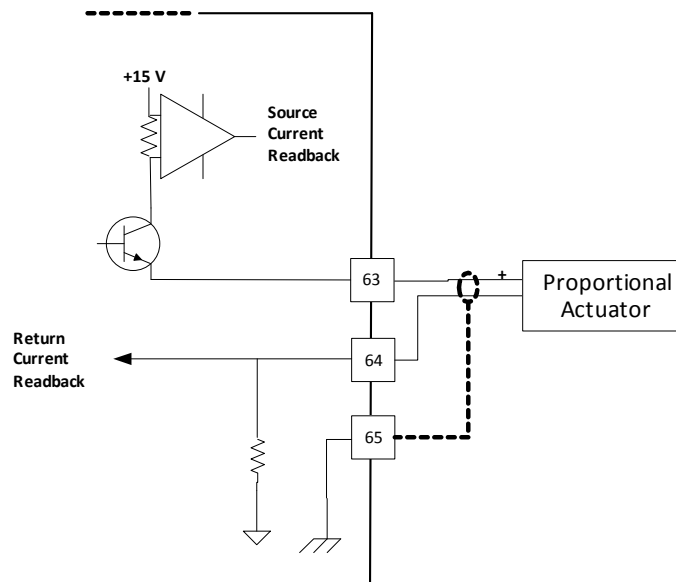

Figure 3-16. Wiring Example—Actuator Output Interface to the SmartCore CPU A5200 Board
- Refer to Figure 3-16 for actuator output wiring.